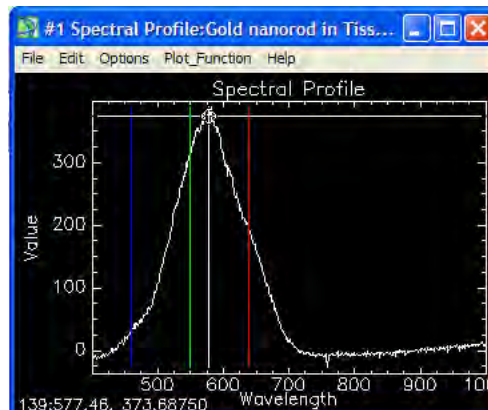

Figure 3. Plots using the Spectral Profile tool
6. Left click in the zoom window to obtain the spectra of the pixel under the cursor in the spectral profile window (see Figure 3).